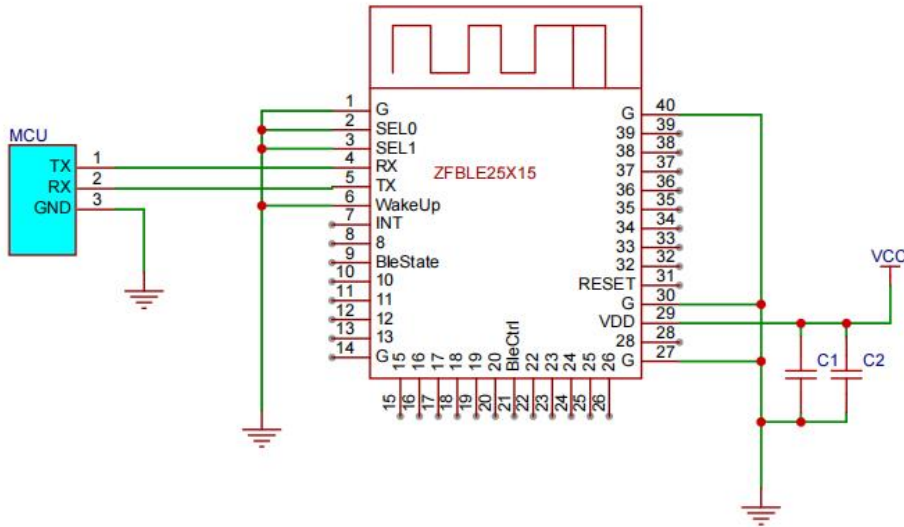

Figure 7-1
7.1 The basic application circuit is shown in *Figure 7-1*.